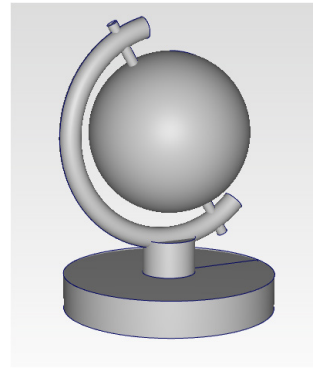

Figure 2-112 Model after hiding the isoparametric curves
4. Select the entire model and then clear the **Isoparm U** and **V** check boxes in the **Display** area of the **Control Panel**; the isoparametric curves in the model are hidden. The model after hiding the isoparametric curves is displayed, as shown in Figure 2-112.